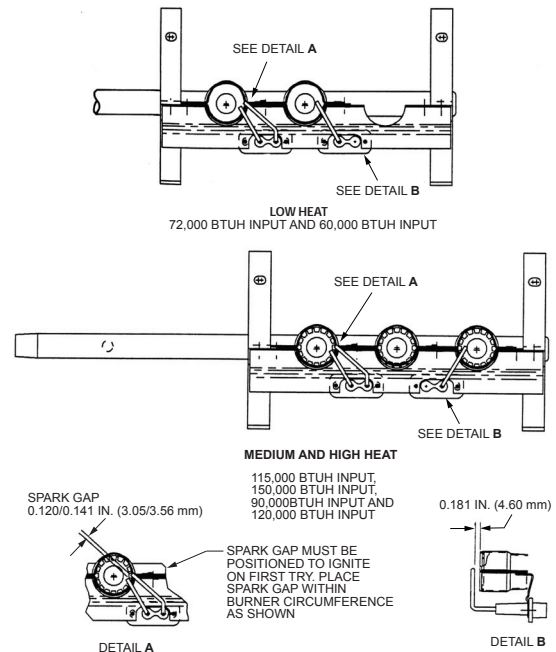
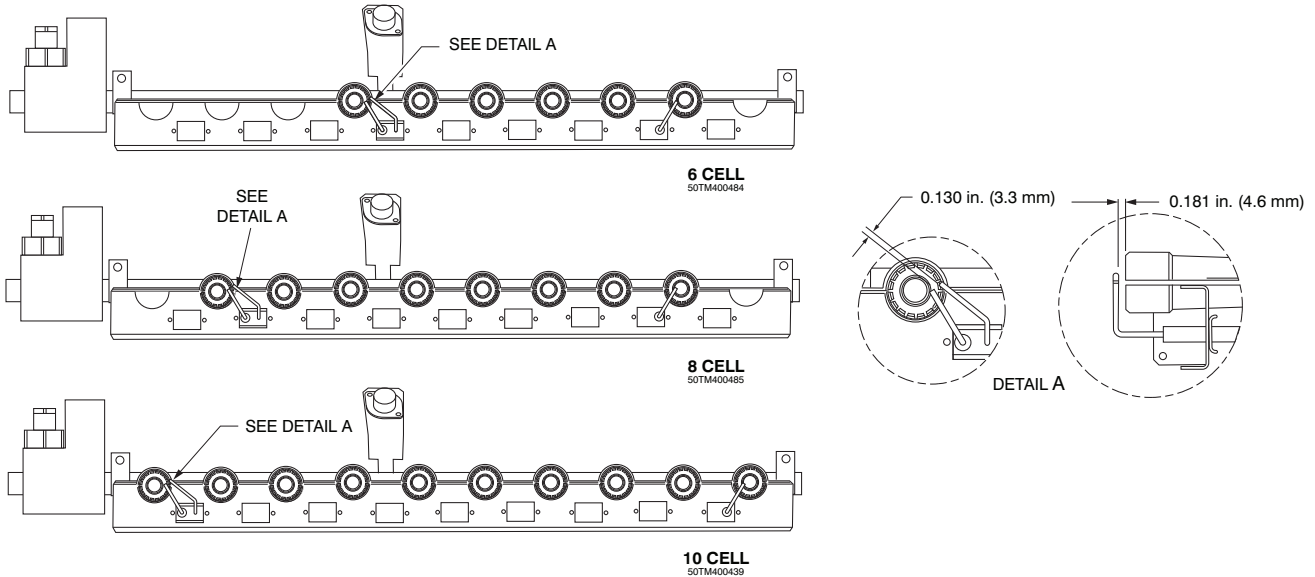

Fig. 65 - Spark Adjustment (04-07)
Fig. 67 - Spark Adjustment (Size 16)
4. Adjust spark gap. See Fig. 65, 66 and Fig. 67.